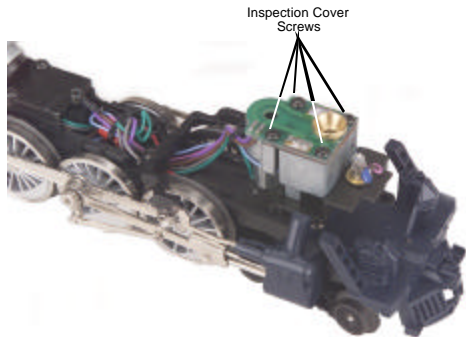

Figure 16
2. Use a phillips head screwdriver to remove the inspection cover screws as seen in Figure 16.